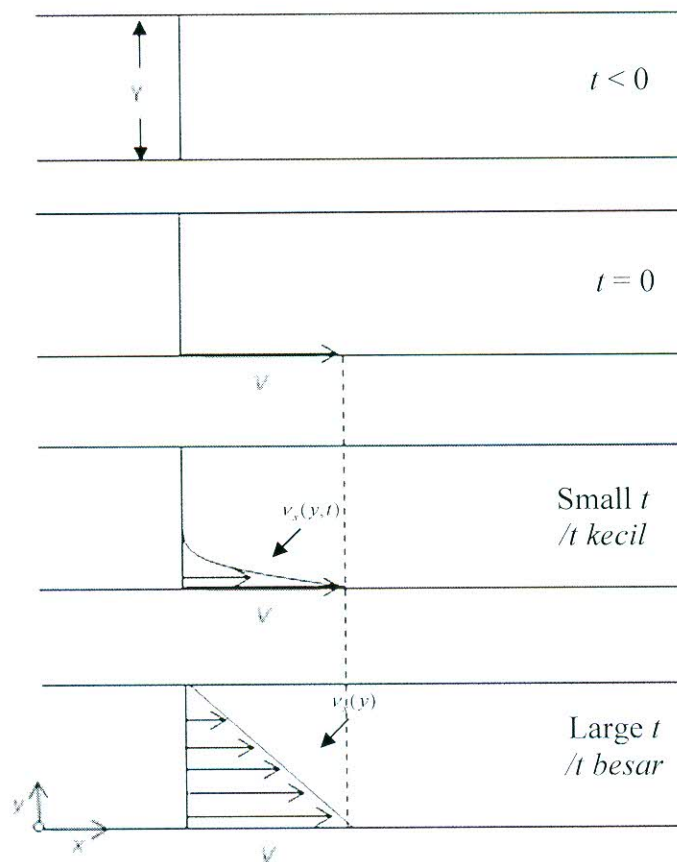

Figure 1 - The velocity profile of a fluid contained between two plates
1. [a] Briefly explain the momentum flux, τ_{yx} . Compute the steady-state momentum flux τ_{yx} in Pascal when the lower plate velocity V , in Figure 1 is 0.30 m/s in the positive x direction, the plate separation, Y , is 0.03 cm, and the fluid viscosity, μ , is 7×10^{-4} Pa.s.